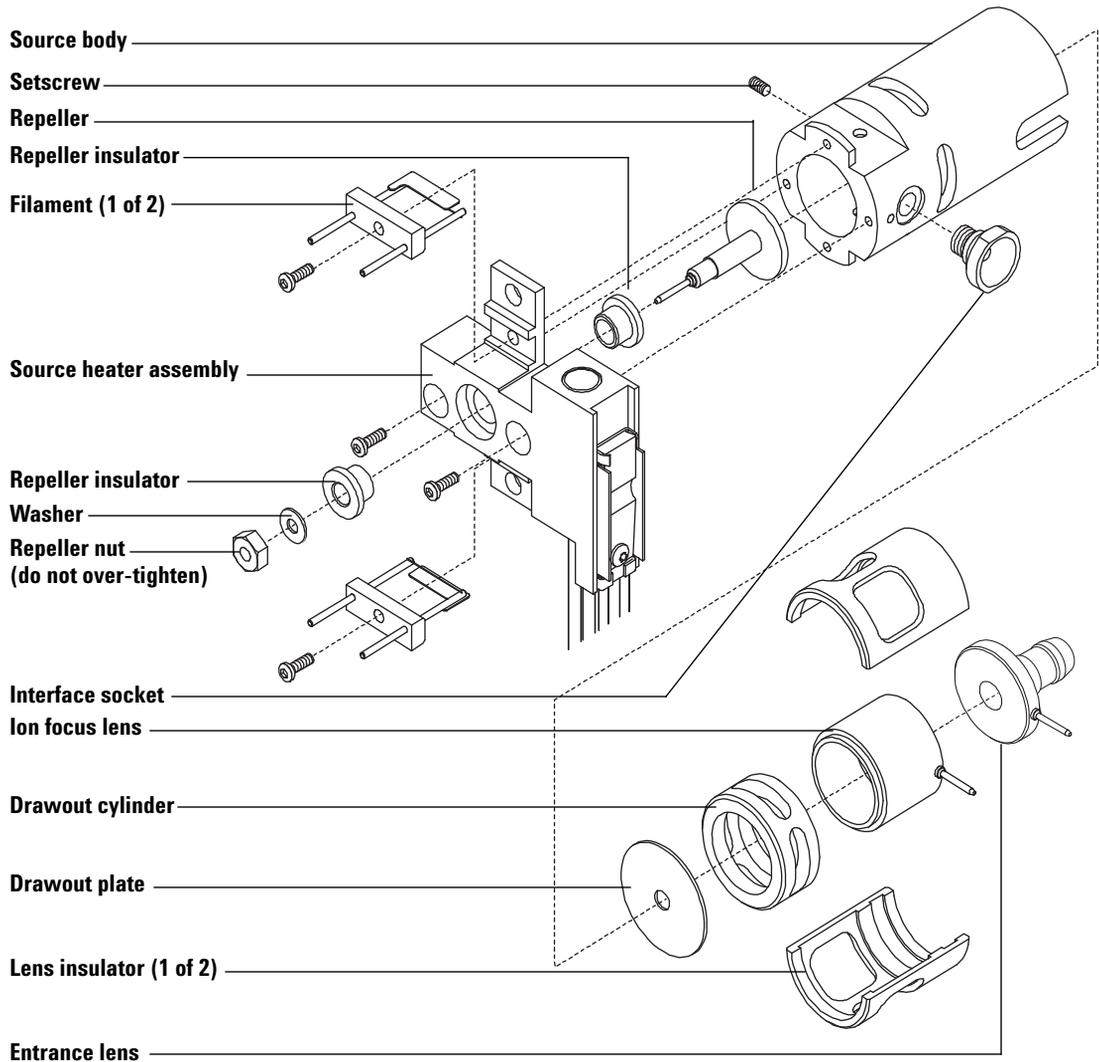

Figure 28 Assembling the ion source
- a Install the repeller block insert into the source heater block assembly. (See Figure 28.)
- 2 Insert the drawout plate and the drawout cylinder into the source body. (See Figure 28.)